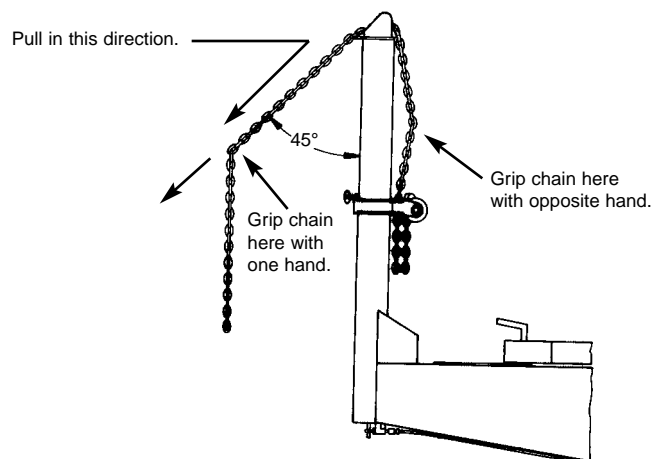

Figure 10
2. To adjust slack tower chain, grip chain on each side of tower. (See Figure 10.) Lift out on tail of chain until it is approximately 45 degrees from tower. Then disengage chain from tower head and pull chain to either increase or decrease amount of slack.